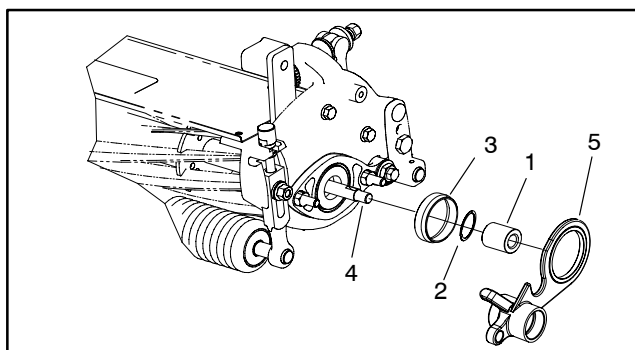

Figure 19
3. Slide spacers from LH reel shaft and LH reel bearing housing (Fig. 19).
9. Slide spacers onto LH reel shaft and LH reel bearing housing (Fig. 19).